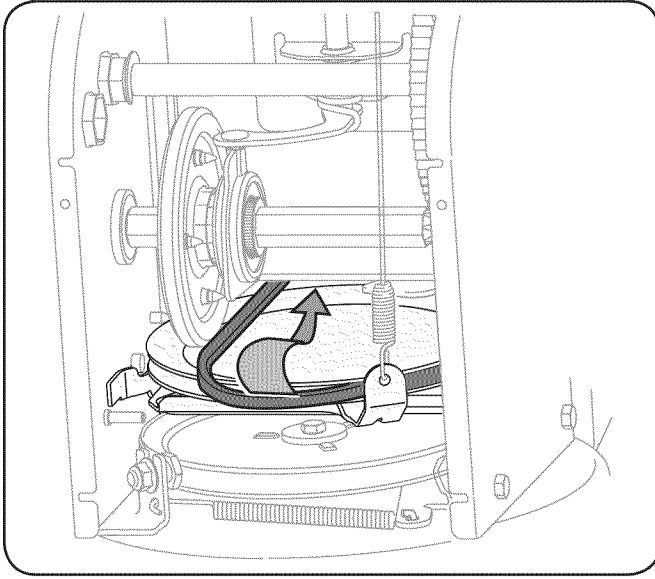

Figure 7-7
- Slip the drive belt off the pulley and between friction wheel and friction wheel disc. See Fig. 7-7.